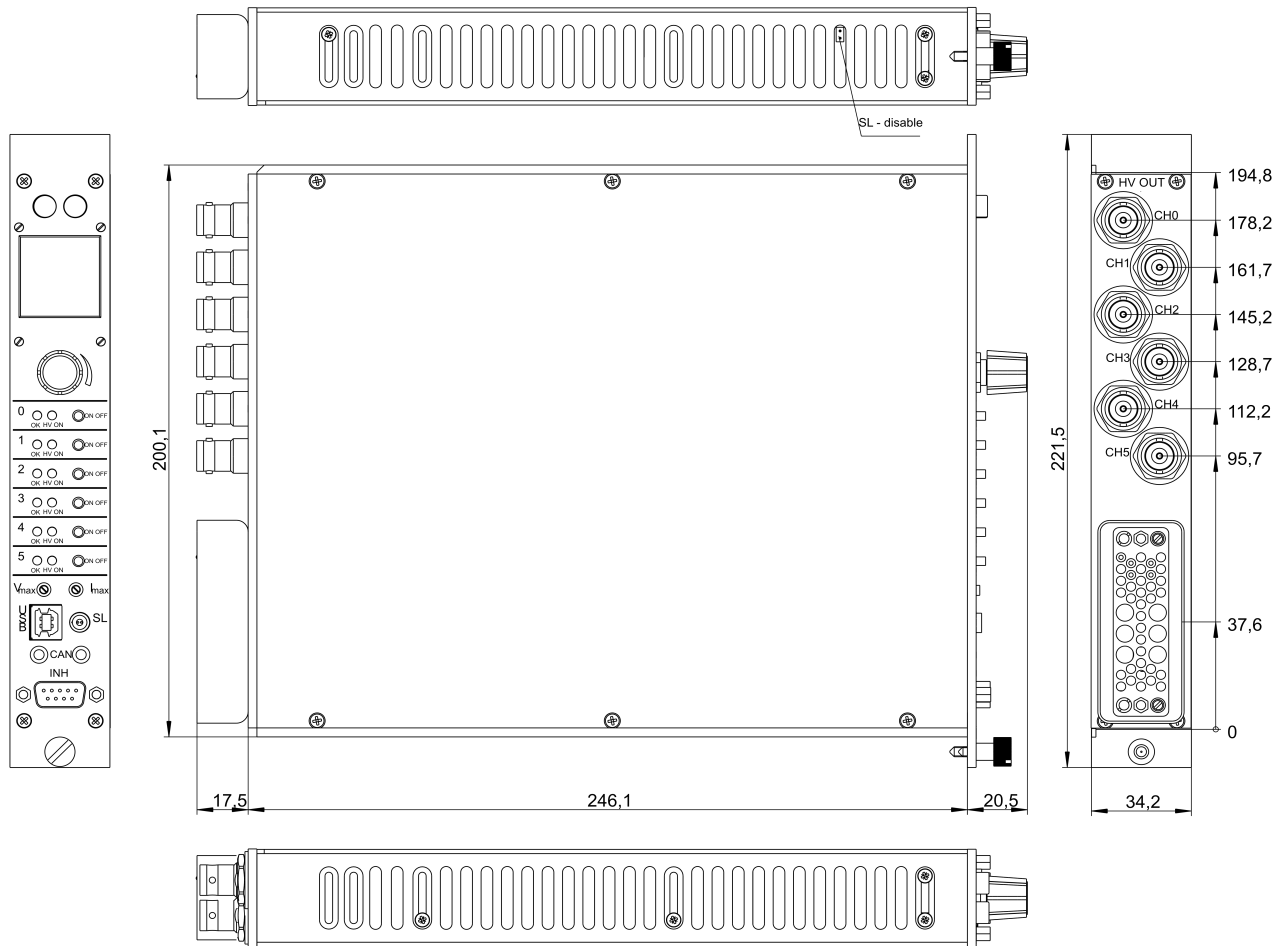
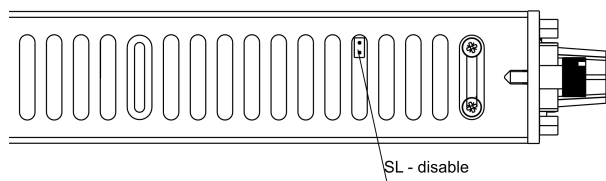

Figure 12: Dimensional Drawing NHS
Figure 13: detailed view of Figure 12, Safety Loop (SL)
By factory setup the safety loop is not active (the corresponding bits are always set). The loop can be activated by removing the internal jumper. The jumper can be accessed via a ventilation slot on the bottom of the module (see dimensional drawings for exact position, Figure 13: detailed view of Figure 12, Safety Loop (SL)).